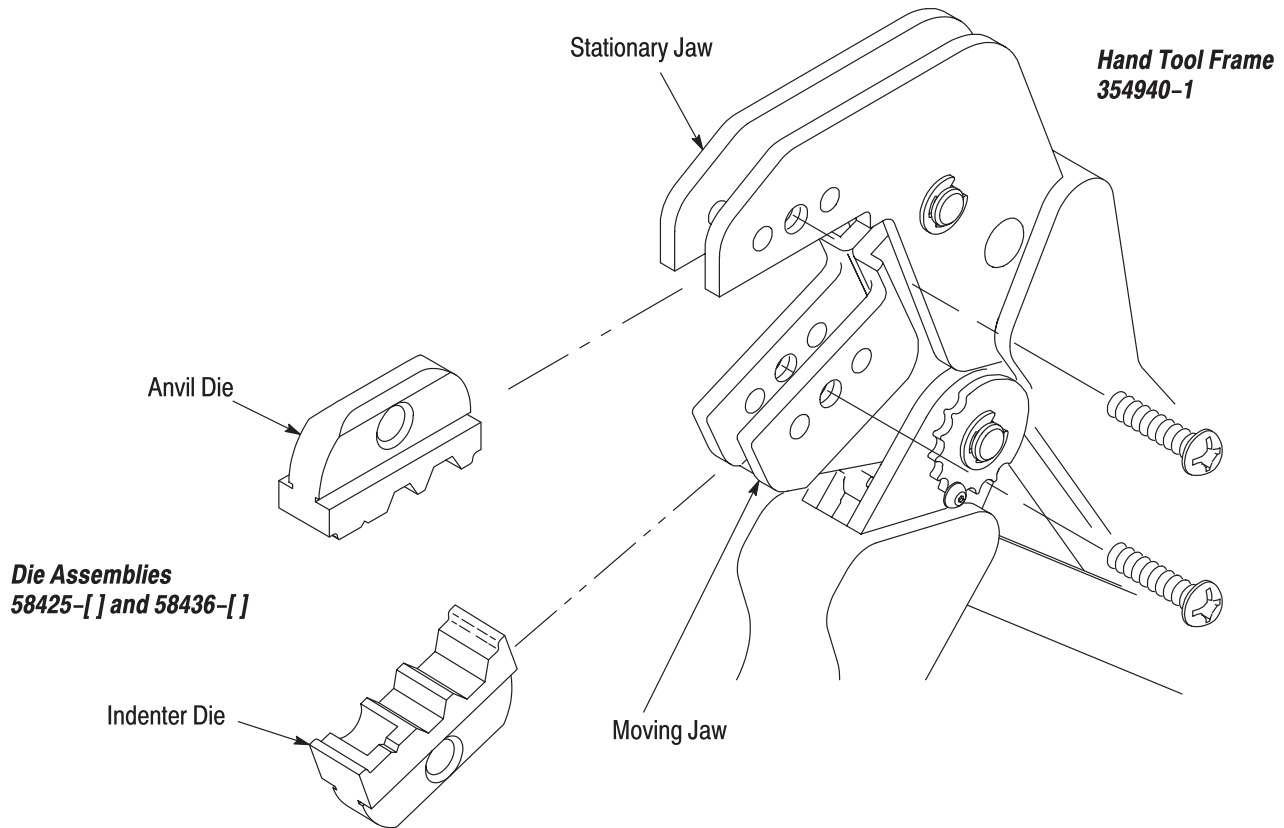

Figure 1
**2. DESCRIPTION** (Figure 1)
2. See Figure 1 for normal orientation of the dies. Insert the dies inside the tool jaws and align the retaining screw holes.
Customer-replaceable parts are shown in Figure 1. Available separately, PRO-CRIMPER Repair Kit 679221-1 includes a variety of pins, rings, screws, and springs. If the dies are damaged or worn excessively, they must be replaced. Order the repair kit and replaceable parts through your Tyco Electronics Representative, or call 1-800-526-5142, or send a facsimile of your purchase order to 1-717-986-7605, or write to: